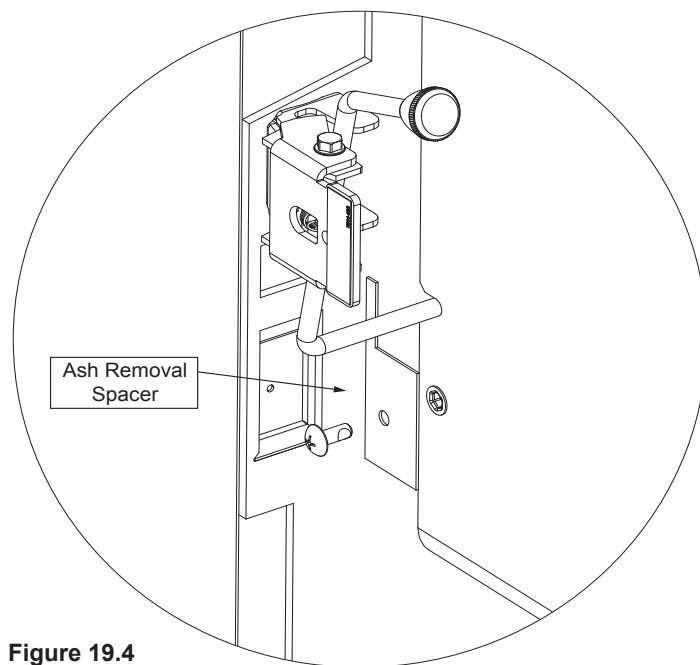

Figure 19.4
3. Install ARS Spacer on left hand side with one bolt using Phillips head screwdriver (**Figure 19.4**).
2. Install ARS Spacer on left hand side with one bolt using Phillips head screwdriver (**Figure 19.4 on page 19**).